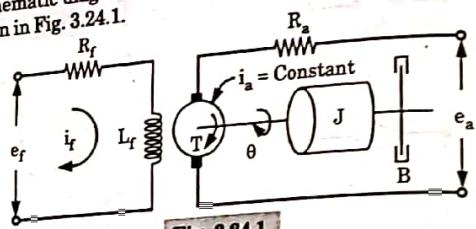

Fig. 3.24.1.
1. A schematic diagram of a field controlled DC motor (DC servomotor) shown in Fig. 3.24.1.